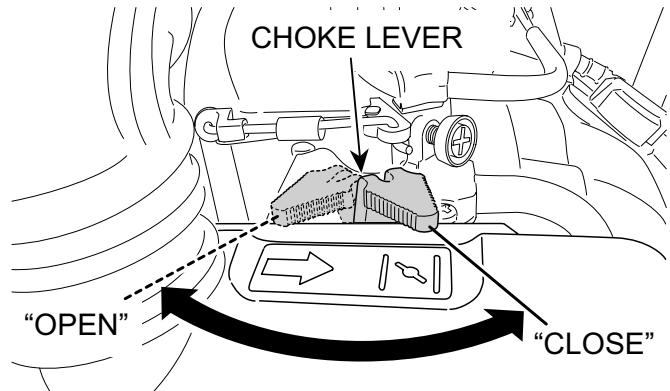

Figure 13. Choke Lever (Closed)
4. In cold weather, start the unit with choke lever "Fully Closed" (Figure 13). In warm weather or when the engine is warm, the unit can be started with choke halfway or completely open.
6. If engine fails to start, move the choke lever (Figure 13) to the half open position to avoid flooding.